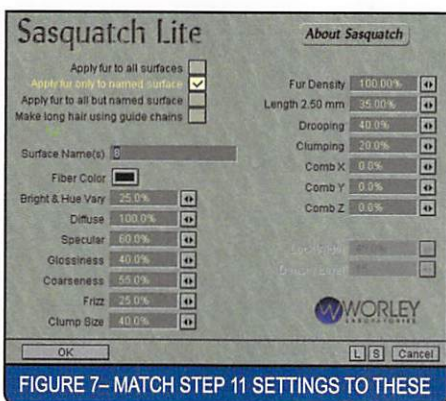

FIGURE 7- MATCH STEP 11 SETTINGS TO THESE
11. Add another SasLite Displacement (Step 11), and change values to match **FIGURE 7**. The Fiber Color should be changed to Black (0, 0, 0), then "OK."